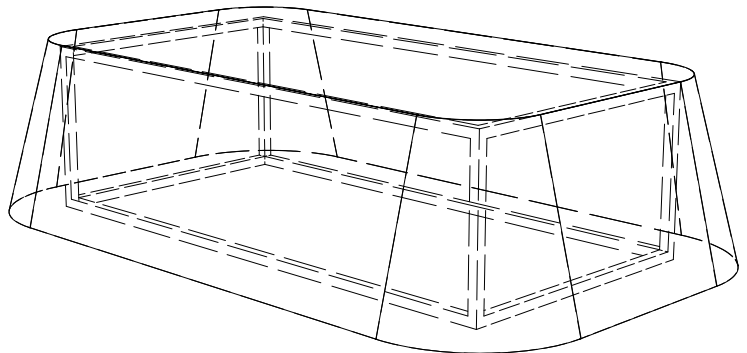

Fig 3 - Tarp over frame
- Temporary storage can be provided by a simple frame supporting a waterproof tarp. See Figure 3.